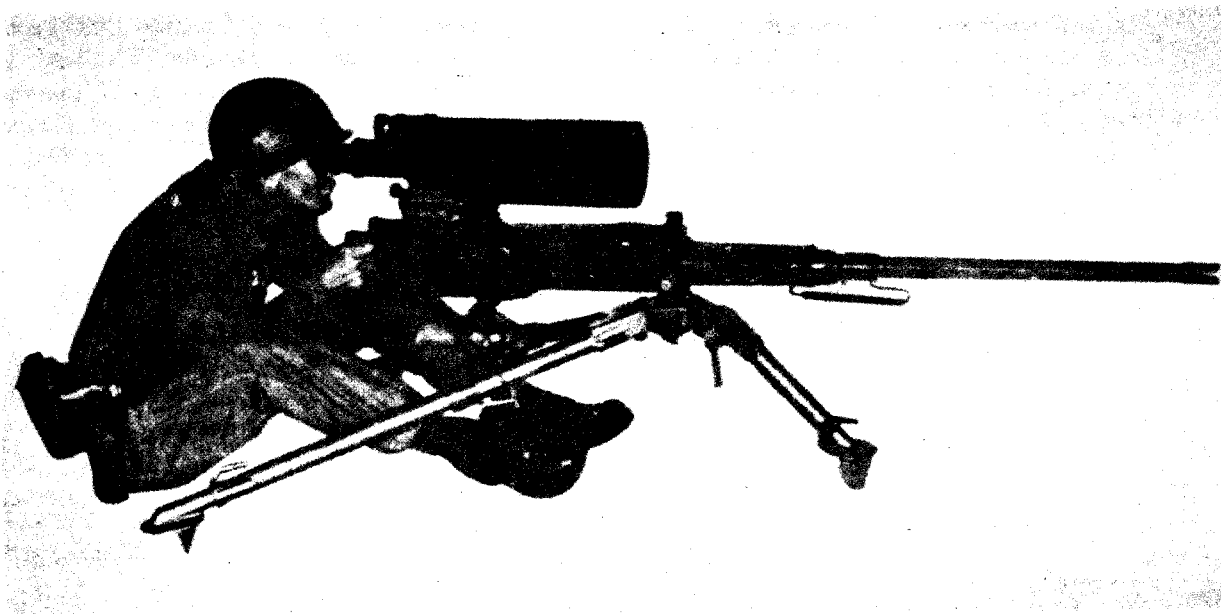

Figure 17. Prone position, caliber .50 machinegun.
- (1) *Prone position (fig 17).* The prone position is possible with the Sight mounted on the caliber .50 machinegun; however, it is not recommended because it requires the gunner to hold his head in an unnatural position and results in fatigue. To assume this position, the front leg of the tripod must be moved to the extreme low position, thus limiting the amount of elevation available on the elevating mechanism.